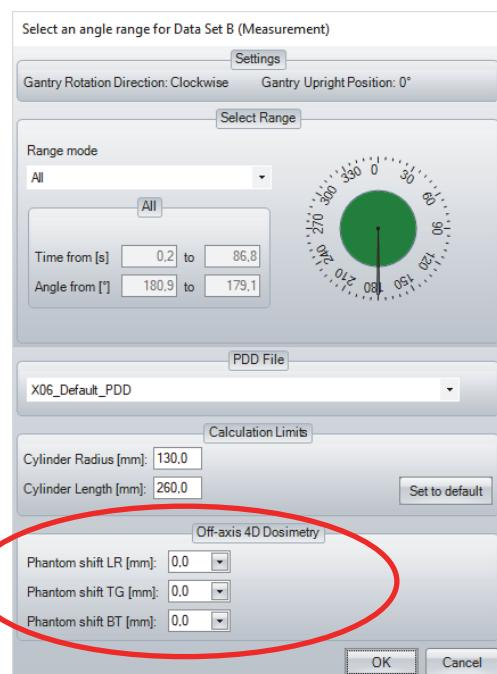

Figure 1: Definition of the phantom shift in the dialogue *Set an angle range for dataset A/B*.
- ▶ The dialogue *Set an angle range for dataset A/B* appears. Perform the dose reconstruction as desired and define the phantom shift in category *Off-axis 4D dosimetry* as it had been applied in treatment planning/during the measurement (see. Fig. 1).